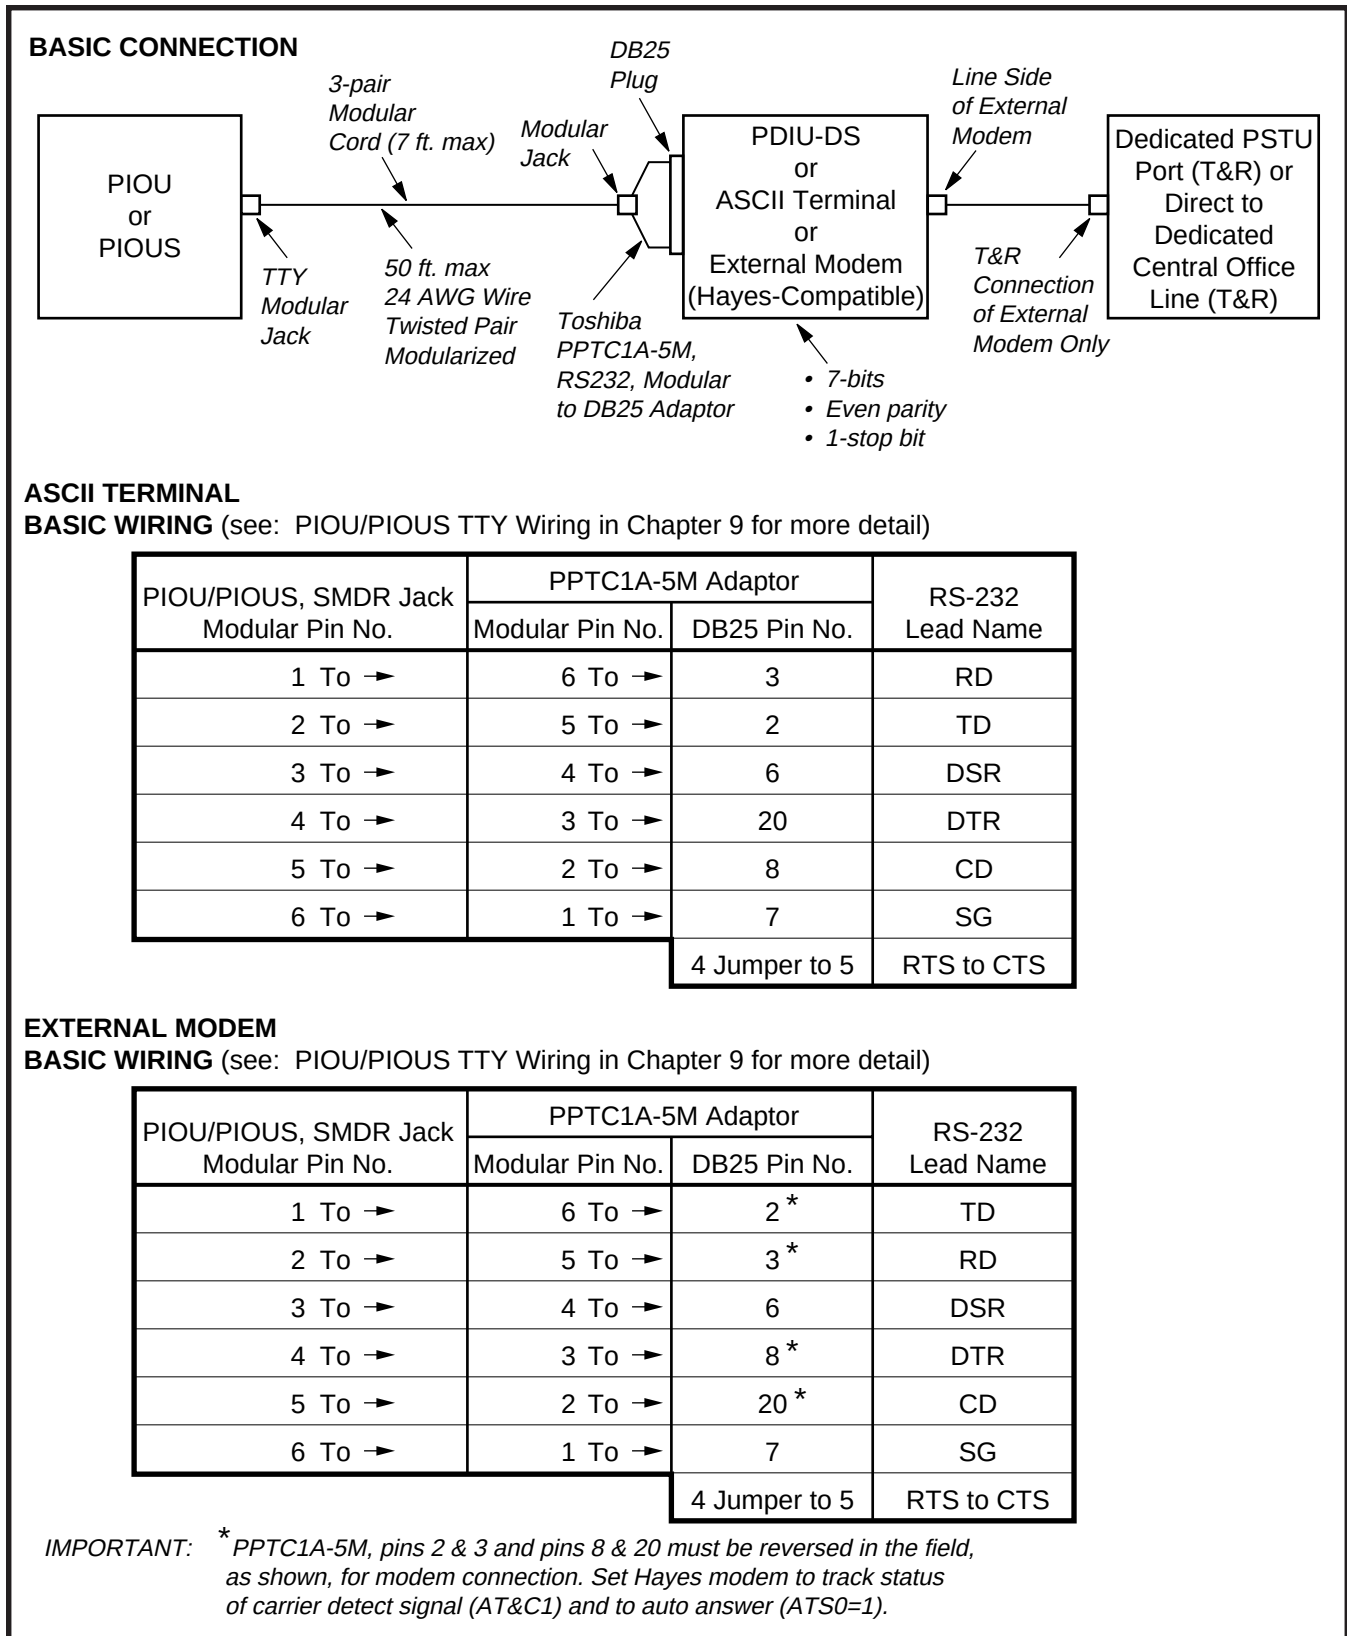

FIGURE 8-25
9.11 The STRATA DK system must be equipped with a PIOU or PIOUS PCB to support the maintenance terminal/external modem options. Connecting the maintenance terminal or external maintenance modem to the PIOU or PIOUS PCB is accomplished with a standard 3-pair modular cord and a PPTC adaptor connected to the PIOU or PIOUS TTY jack. (Refer to Figure 8-25.)
9.21 Install the ASCII terminal in accordance with the following steps: (Refer to Figure 8-25.)
9.32 External Maintenance Modem Installation. Install the external modem in accordance with the following steps: (Refer to Figure 8-25.)